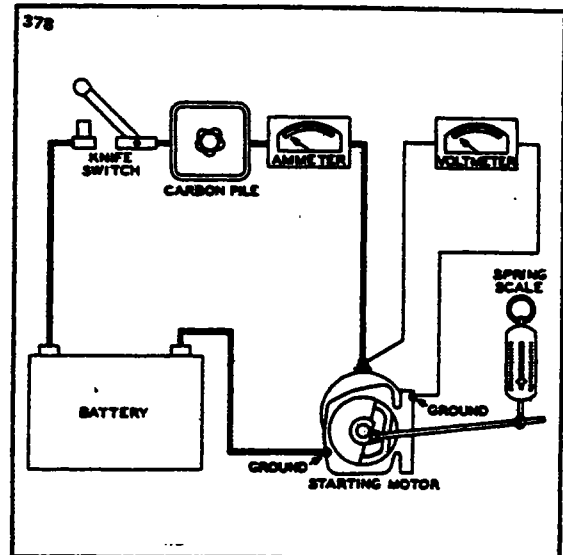

Figure 11-52. Stall-Torque Hook-up
b. If no difficulty is indicated in the above test, a stall torque test may be made to see if the starting motor is producing its rated cranking power. Make test connections as shown in Figure 11-52.